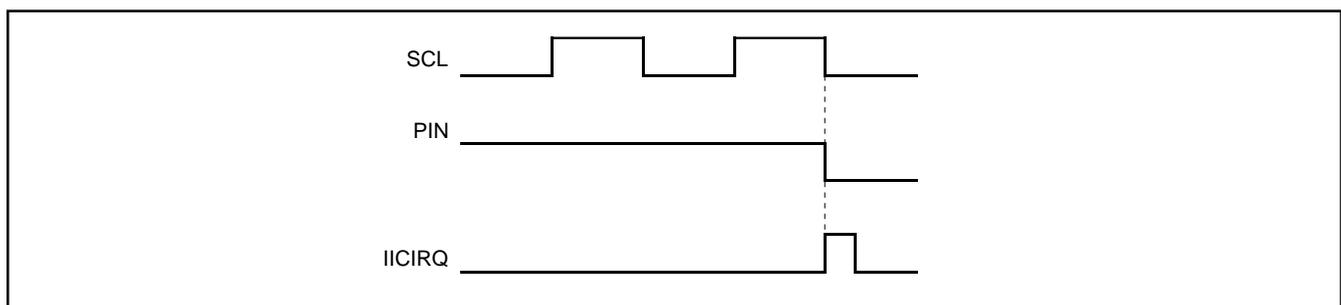

Fig. 8.6.8 Interrupt Request Signal Generation Timing
This bit generates an interrupt request signal. Each time 1-byte data is transmitted, the state of the PIN bit changes from "1" to "0." At the same time, an interrupt request signal is sent to the CPU. The PIN bit is set to "0" in synchronization with a falling edge of the last clock (including the ACK clock) of an internal clock and an interrupt request signal occurs in synchronization with a falling edge of the PIN bit. When detecting the STOP condition in slave, the multi-master I2C-BUS interface interrupt request bit (IR) is set to "0" (interrupt request) regardless of falling of PIN bit. When the PIN bit is "0," the SCL is kept in the "0" state and clock generation is disabled. Figure 8.6.8 shows an interrupt request signal generating timing chart.